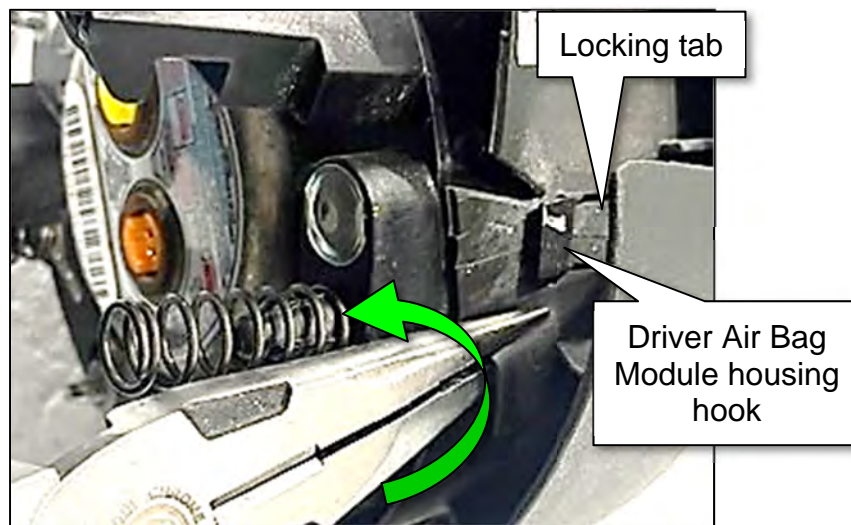

Figure 8
- Using a pair of suitable needle nose pliers, grab and pinch the cut hoop wall plastic next to the Driver Air Bag Module housing hooks and twist counter-clockwise to remove the cut plastic from under the Driver Air Bag Module housing hook, as shown in Figure 8.